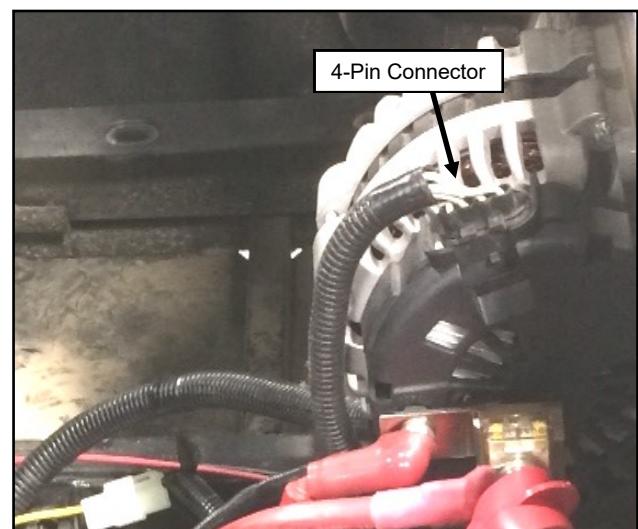

Fig. 4.9 (4-Pin Connector, A/C Power Supply Harness (Cab))
- 4.9 Connect 4-pin connector found on the Cab Side A/C Power Supply Harness to the back of the alternator as shown in fig. 4.9.